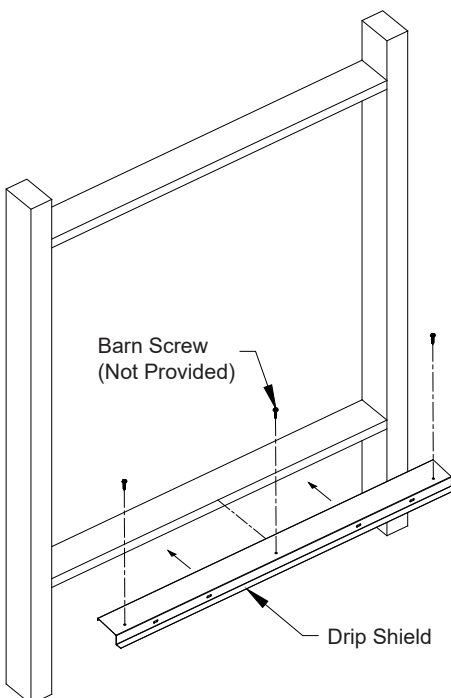

Figure 4A
Attach Drip Shield to bottom of framed opening using (3) Barn Screws (Not Provided). *See Figure 4A and 4B.* If a 4" wall is used a support board must be installed as shown in *Figure 4B*. Be sure not to deform Drip Shield when installing screws.